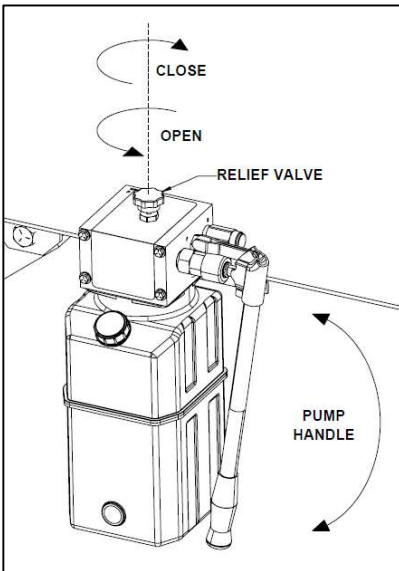

Figure 5. Pump Detail
5. Open relief valve (see Figure 5).
1. Close the pump relief valve by turning knob clockwise (see Figure 5)
1. Close the pump relief valve by turning knob clockwise (see Figure 5).